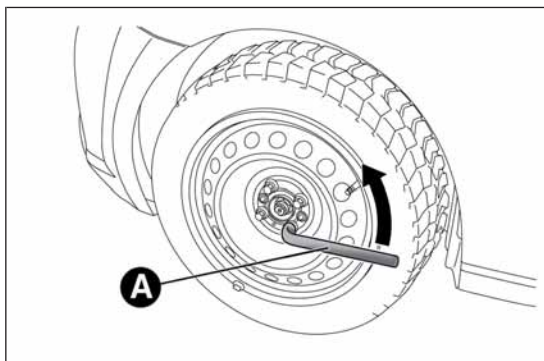
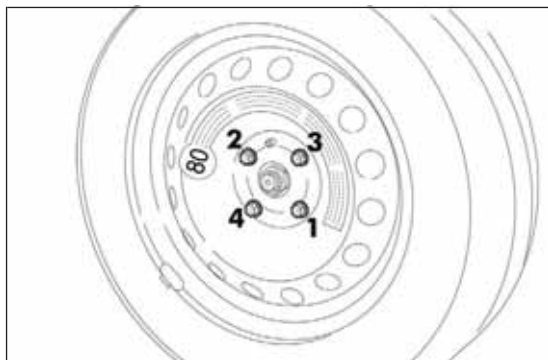

fig. 118
fig. 121
- take wrench A fig. 118 and loosen the fixing bolts by about one turn;
- ❑ take the wrench A fig. 118 and fully tighten the fixing bolts;
- ❑ use the wrench A fig. 118 provided to fully tighten the bolts in a criss-cross fashion as per the numerical sequence illustrated in fig. 121;
- ☐ tighten the retaining bolts using wrench A fig. 118;
- ☐ use wrench A fig. 118 to fully tighten the bolts, following the sequence illustrated in